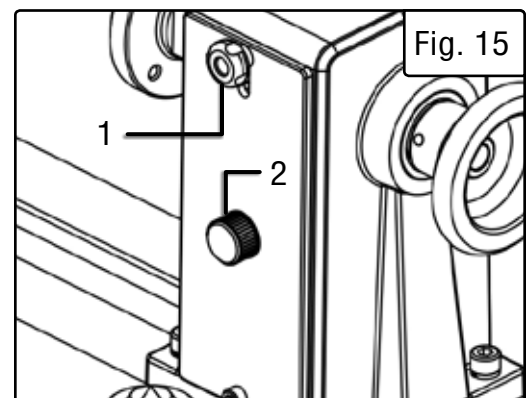

Fig. 15
1. Loosen the back cover knob (Fig. 15 - 1), then pull the back cover (Fig. 15 - 2) up and rotate it out of the way to access the spindle pulley. Tighten the knob.